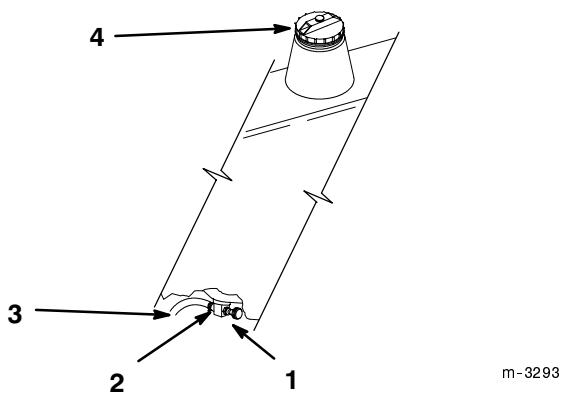

Figure 64
2. Close fuel shut-off valve at fuel tank (Fig. 64).
6. Open fuel shut-off valve at fuel tank (Fig. 64).
3. Loosen the hose clamp and slide it up the fuel line away from the fuel shut-off valve (Fig. 64).
4. Pull the fuel line off fuel shut-off valve (Fig. 64). Open fuel shut-off valve and allow gasoline to drain into a gas can or drain pan.
5. Install the fuel line onto the fuel shut-off valve. Slide the hose clamp close to the fuel shut-off valve to secure the fuel line (Fig. 64).